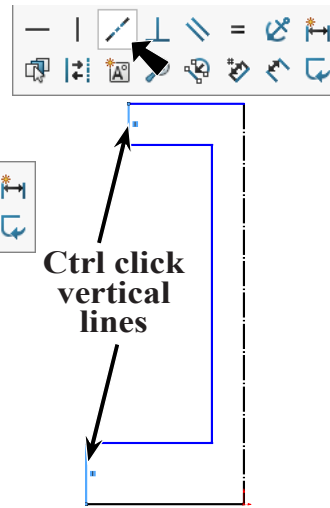

Fig. 3
Step 5. **Ctrl click both short vertical lines** to select both. Release Ctrl key and click **Make Collinear**  on the context toolbar, **Fig. 3**.